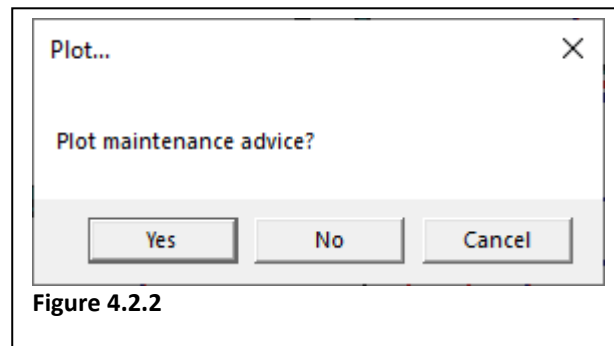

Figure 4.2.2
3. Click **File -> Plot**, or button: . BRUTIS then asks via the window in figure 4.2.2 whether you also want to print the bitmap measures from the assessment. Click on [Yes] or [No] button, then left-click in the graphical view and hold down the mouse button. BRUTIS then draws the paper size to the size that BRUTIS will have it printed.
2. Click File -> Plot Window, or button: . BRUTIS then asks via the window in figure 4.2.2 whether you also want to print the bitmap measures from the assessment. If this question is answered with [Yes], a separate drawing will be made of each measure in A4 format on which the location of the measure is indicated. These images can then be included in specifications.